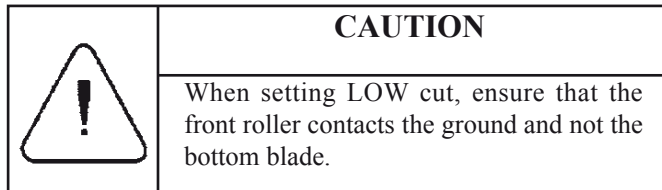

Figure 9. Cutting height adjustment
The cutting height is adjusted with the front roller adjustment knob (A) Figure 9.